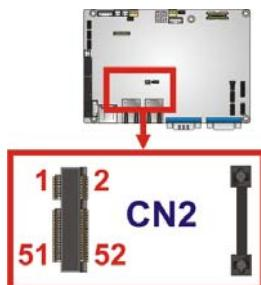

Figure 3-9: PCIe Mini Card Slot Location
**CN Location:** See Figure 3-9